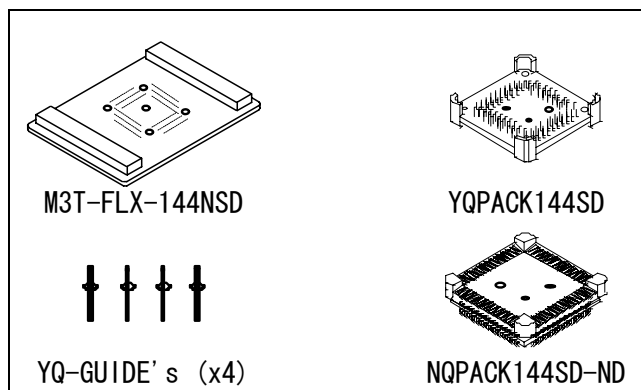

Figure 1 Package components of the M3T-FLX-144NSD
2. Package Components (See Figure 1)